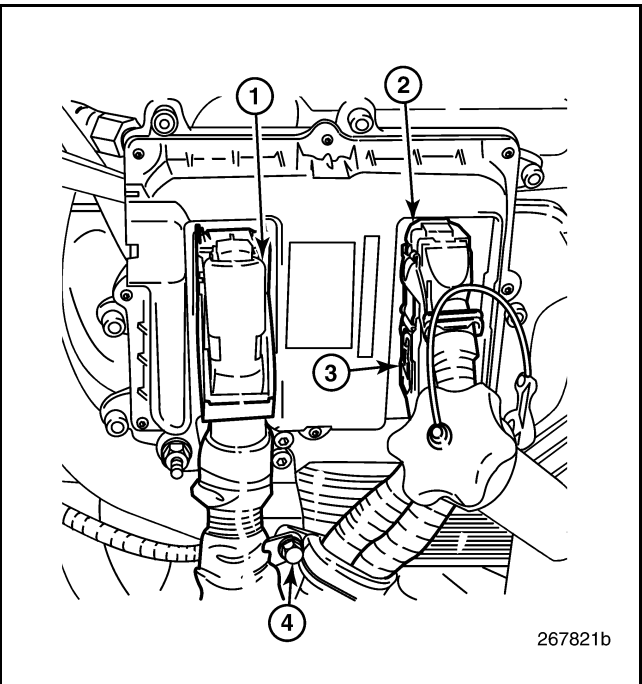

Figure 130 — EECU Connectors
- 3. Disconnect the wiring harness connectors from the EECU (Figure 130).